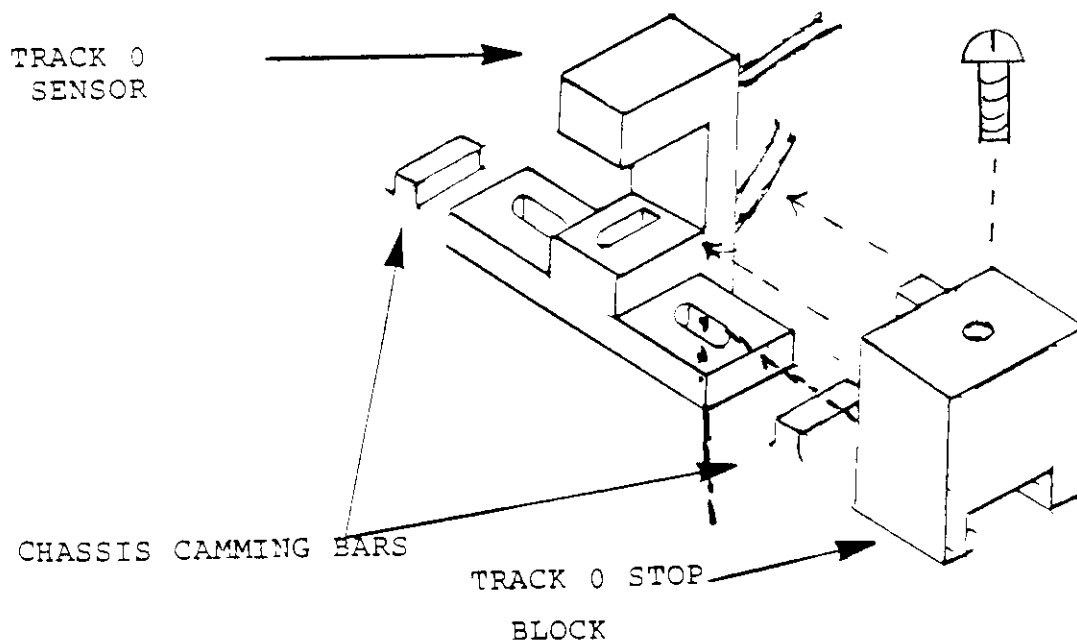

FIGURE 5-13
2. Retighten the screw on the spindle side of the sensor to provide some friction on it. The screw at the rear of the sensor is for the Track 0 stop (see Figure 5-13).
5. Loosen Number 1 Phillips screw at rear of Track 0 sensor. Track 0 stop block slides inside of Track 0 sensor. See Figure 5-13.